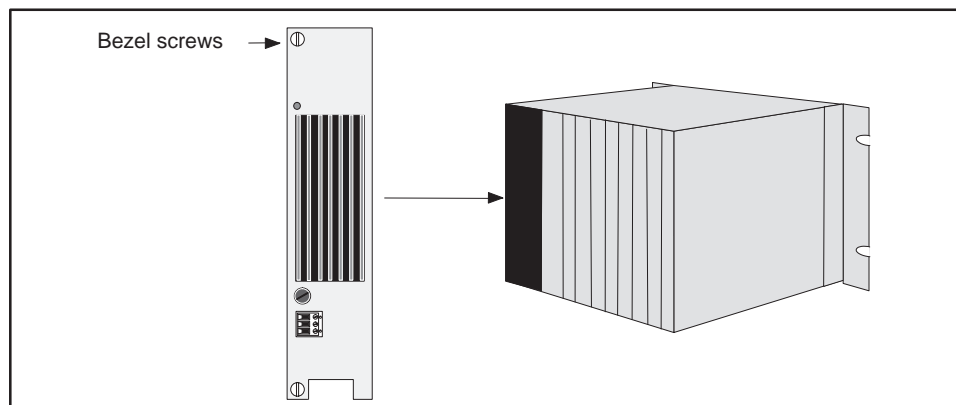

Figure 3-19 Location of Power Supply in Base
4. Insert the power supply into the far left slot of the base as shown in Figure 3-19.